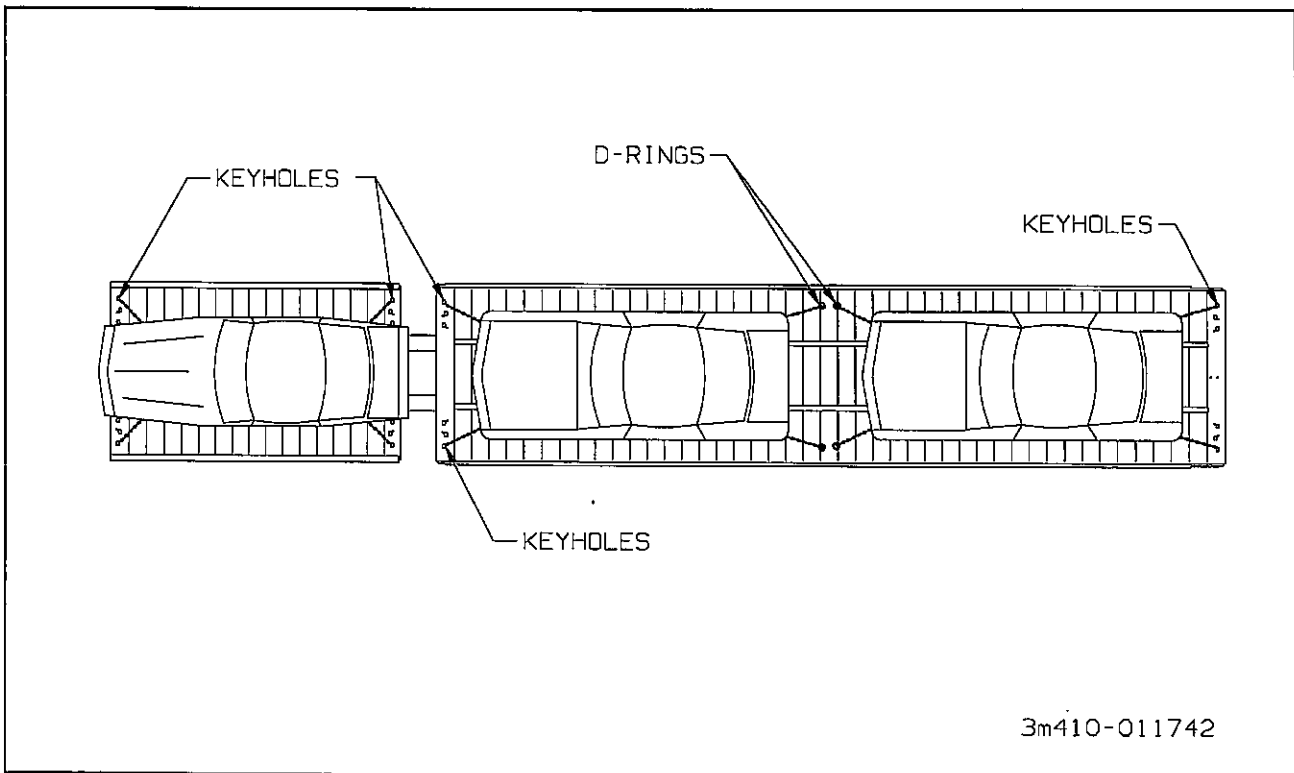

Figure 3-12 Securing the Load
l. Pull the vehicle onto the over-the-cab deck and secure with chains as shown in Figure 3-12 (See Paragraph 3-11.7).
a. All vehicles must be securely tied front and rear to the deck with 5/16 HI-TEST chain. Key holes are provided in the front and rear of each deck floor to anchor and D-rings are provided in the mid section of each trailer deck for anchoring. (See Figure 3-12.)